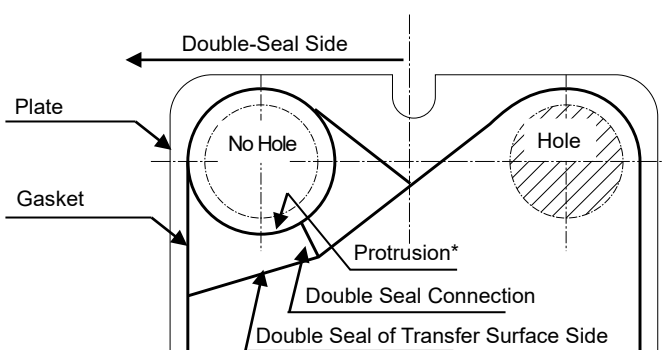

Fig. 6 Part Names
1) In case of no slit on plate, cut the protrusion of Gasket (* part in Fig.6) with scissors as below Fig.6 and 7.
- 2) Long period use make double seal of transfer surface side (refer to Fig. 6) insufficient fit to plate groove. Existing gasket still can be re-used. Fix it as same procedure as 3-5 2)